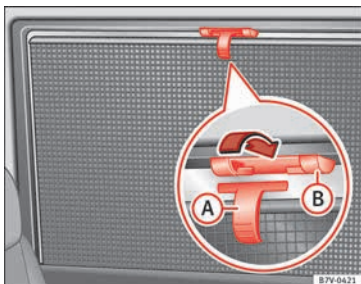

Fig. 144 On the rear right-hand window: sun blind
- Pull the sun blind by the handle » **Fig. 144** **A** up to the top.